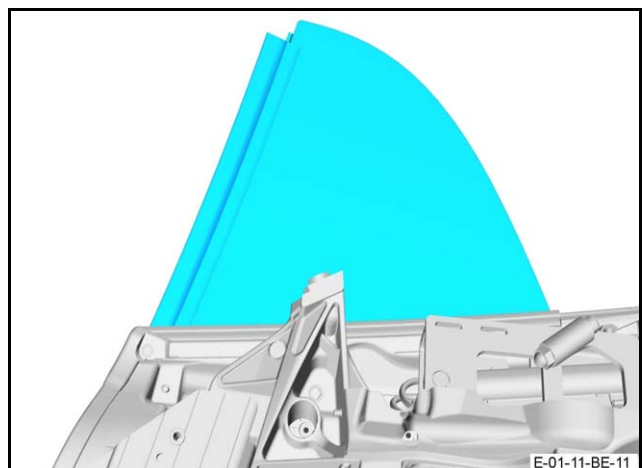

Figure 17
12. Put the quarter glass window in position (Refer to Figure 17).